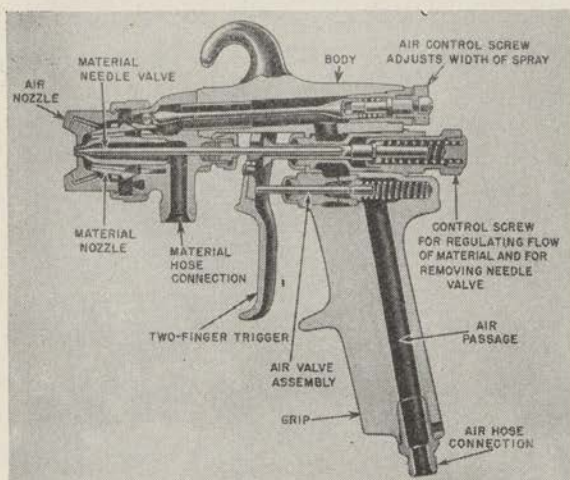

FIGURE 121.—Cross section of spray gun.
30. Operation and care of spray guns.—A popular spray gun is shown in cross section in figure 121, with its parts indicated. Other spray guns are similar. This gun can be used with either a siphon cup or a pressure container.
a. Pressures.—(1) No set rule can be given for the pressure to be used in a spray gun because it varies considerably with the nozzle combination, the material being sprayed, and the work being done. Several different air nozzles, material nozzles, and material needle valves are available for the same guns. Combinations of those three parts, as